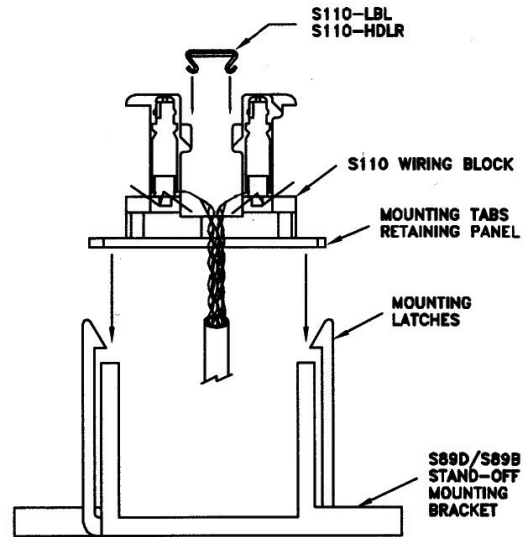

Figure 1
1. One stand-off bracket is required per wiring block. Secure the stand-off bracket to a cross-connect panel or flat surface. Position the wiring block above the bracket as shown in Figure 1. Align the mounting tabs of the 89 retainer with the mounting latches of the stand-off bracket and push the wiring block with retainer onto the mounting bracket until the latches snap into place.
5. Mark circuit designation strip (S110-LBL) and slide strip into holder (S110-HLDR). Snap the holder onto the wiring block as shown in Figure 1. The label and holder provide circuit identification and a neat appearance.